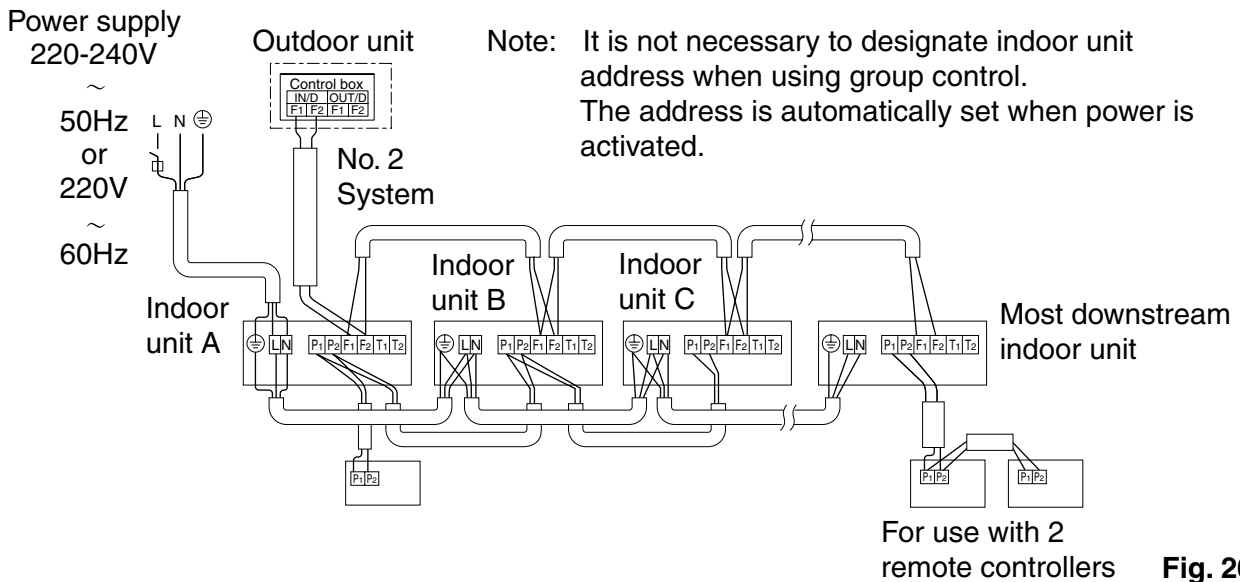

Fig. 26
- (3) Remove the service cover.
(4) Add remote control 2 (slave) to the terminal block (6P) for remote controller (P₁, P₂) in the control box. (There is no polarity.) (Refer to Fig. 26 and section 7-3 for the wiring size.)